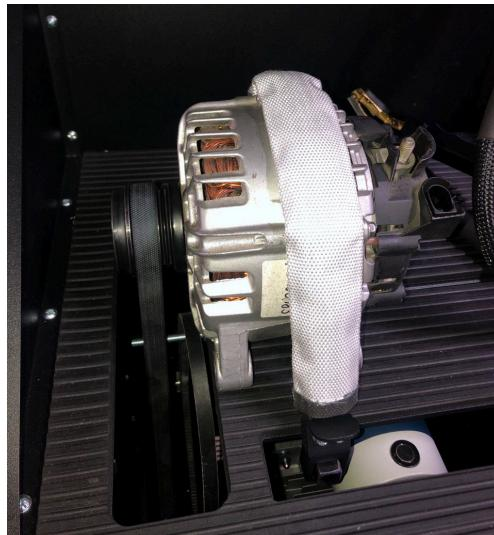

Figure 11. Installation and Fixation of the Alternator on the Bench
The main menu of the bench (Fig. 11) includes:
**CAUTION!** Ensure that the position of the chain on the alternator is such that after tightening the belt, the alternator is in a horizontal position (see Fig. 11). Misalignment of the alternator leads to belt slippage on the pulley and rapid wear.